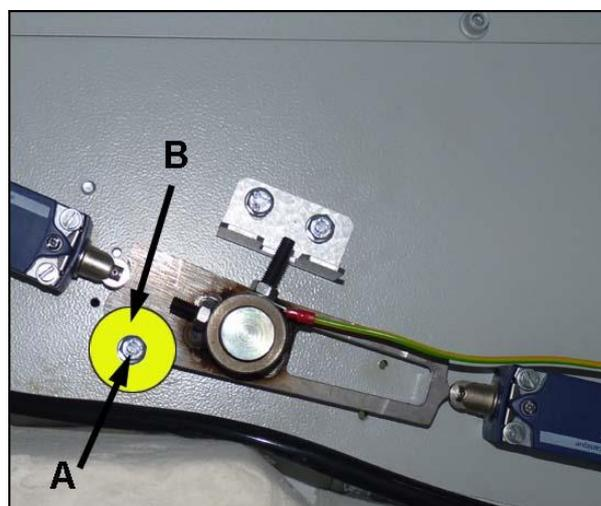

Fig. 3.5
**Remove the transportation fixings from the hand guard (Fig. 3.5)**